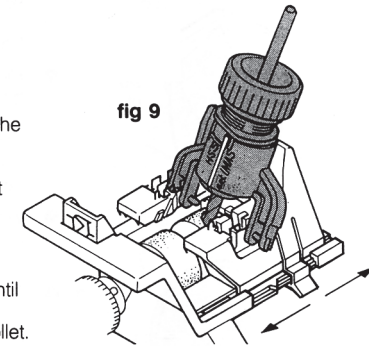
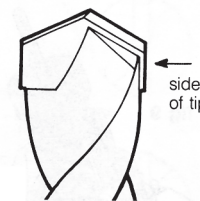

fig 9
fig 10
- Insert the turret into the holder, with either rib fitted into the 'set/MAS' slot. Push down fully (fig 9).
- Push down bit until it touches the right-hand (green) wheel. Rotate the bit until **the side** of the tip (see fig 10) is aligned with the line marked on the turret holder (fig 9). Tighten the nut but do not over-tighten.
- Slowly move the carriage back and forth so the bit contacts the **full width** of the green wheel. Do this **3 or 4 times only**, using **light** downward pressure on the turret (fig 9).